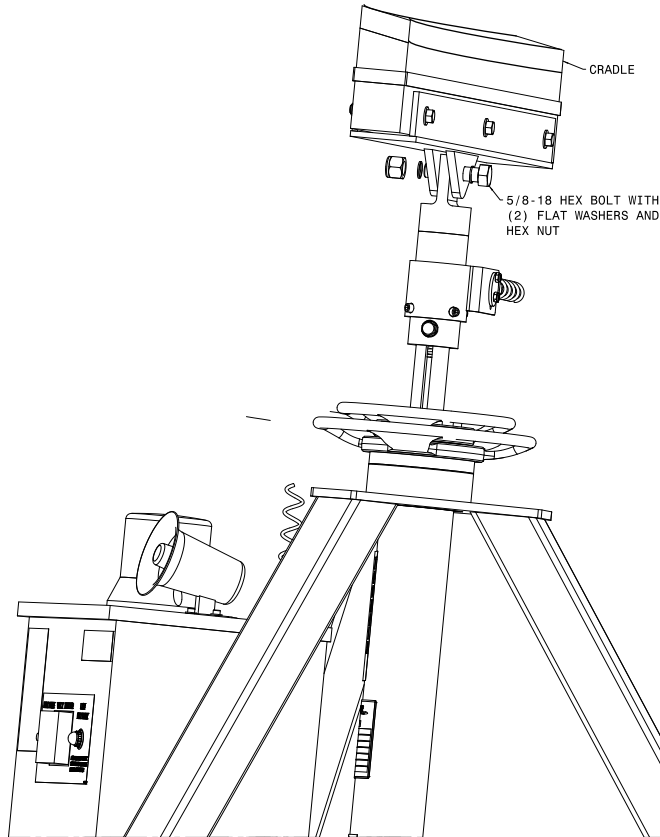

Figure 2
1. Fasten cradle assembly to extension with one (1) $\frac{5}{8}$ - 18 x 2 $\frac{1}{2}$ inch hex head bolt, $\frac{5}{8}$ inch flatwashers, and $\frac{5}{8}$ - 18 elastic stopnut. Reference Figure 2.